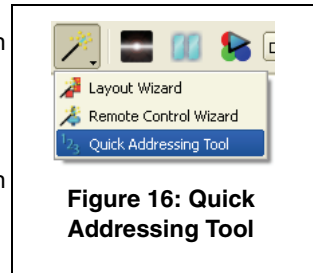

Figure 16: Quick Addressing Tool
1. After connecting a P3-100 to a physical installation, the easiest way to link panels on the virtual canvas to panels in the physical installation is to click on the **Quick Addressing Tool** under the **Wizards** button on the Toolbar (see Figure 16).